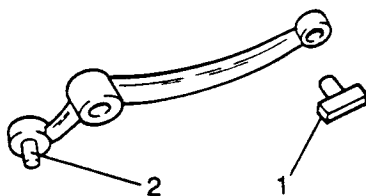

Fig H1.130
2. Refer to Fig H1.130. Examine the wear of the pad (1) and coupling pin (2) which must be changed if found excessive.